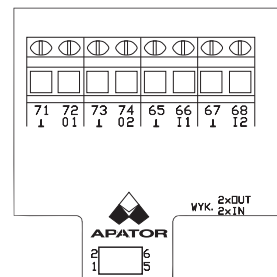

Fig. 28
2. module with 2 outputs + 2 impulse inputs (Fig. 28, module code: 080): outputs for the I/O module are the same as for the 016 module. Inputs can operate in IB or IC class (according to PN-EN 1434-2). In each case, the inputs and outputs are galvanically isolated from the calculator